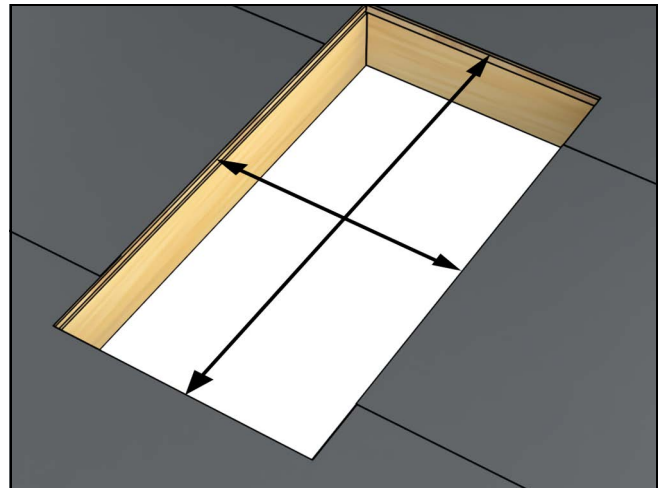

Figure 28
2. Cut rough opening according to the measurements in the chart. Build curb according to measurements in the chart. Use lumber with an actual thickness of 1½" (38) and a minimum height of 3½" (90). Curb height and attachment should comply with building codes and local regulations and be secure enough to transfer the skylight loads to the framing members. See Figure 28.